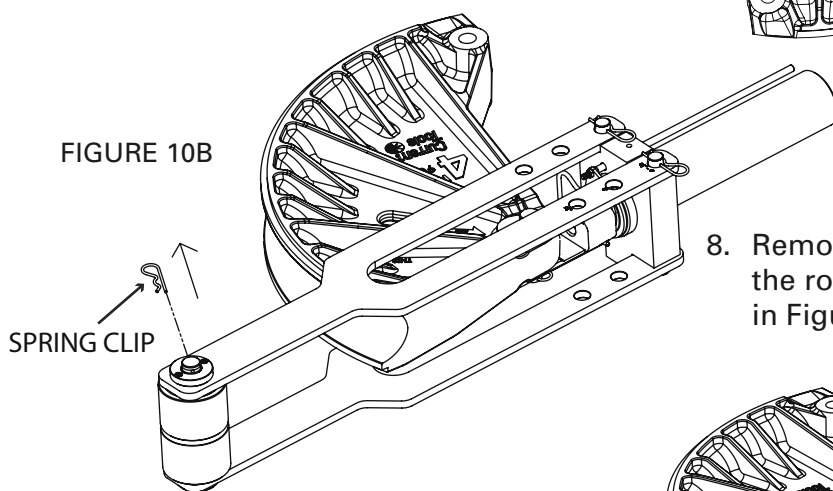

FIGURE 10B
8. Remove the spring clip from the roller assembly as shown in Figure 10B.